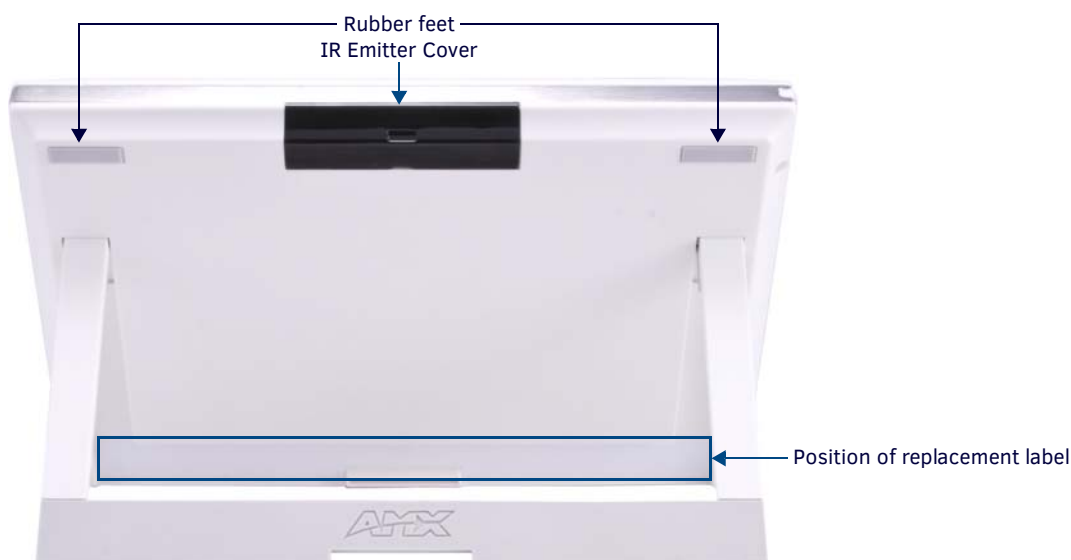

FIG. 122 Rear of the MVP-9000i-WH
4. Insert the seven screws and replace the rubber feet atop the two upper screws, using the replacement rubber feet included in the Battery Pack Kit. Replace the bottom label over the three bottom screws, using the replacement label included in the Battery Pack Kit (FIG. 122).